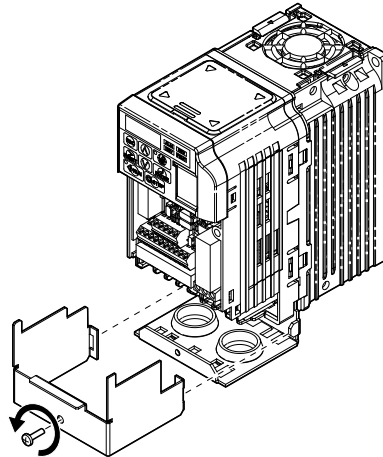
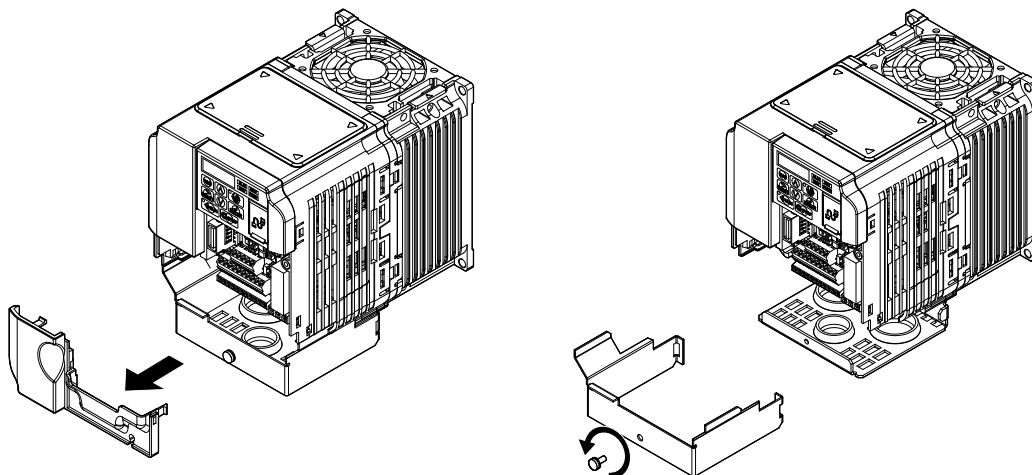

Figure 8 Remove the NEMA Type 1 Terminal Cover (CIMR-V□BA0001F to BA0003F, 2A0001F to 2A0006F)
Figure 9 Remove the Terminal Cover on an IP20/NEMA Type 1 Drive (Models CIMR-V□BA0006F to BA0018F; 2A0008F to 2A0069F; 4A0001F to 4A0038F)
6. For IP20/NEMA Type 1 enclosure models CIMR-V□□□A□□□□□F, loosen the screw on the front of the NEMA Type 1 terminal cover and remove it from the drive. Refer to **Figure 8** for details. Refer to **Figure 9** for drive models CIMR-V□BA0006F to BA0018F, 2A0008F to 2A0069F, and 4A0001F to 4A0038F, which require removing the plastic terminal cover prior to removing the NEMA Type 1 terminal cover.